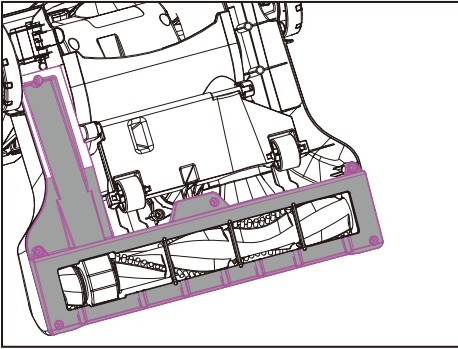

Fig 5
7. To use accessories without handle and wand, push desired tool directly onto end of hose (Fig.5).
- Refit brush roll bar cover and screw in 6 screws (Fig 5)